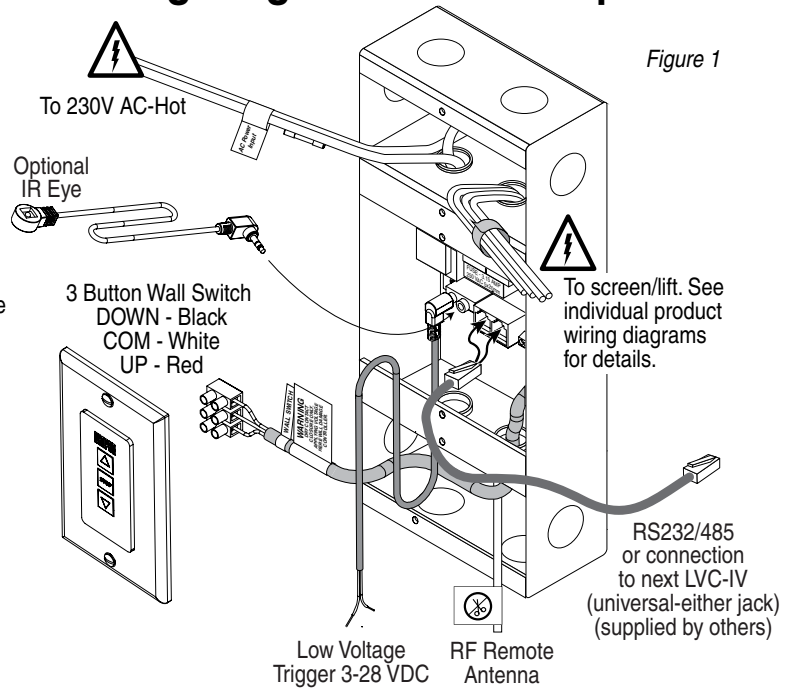

Figure 1
- ① Plug Optional IR Eye into mini plug input provided on LVC-IV (see Figs. 1 and 3).
- ② IR Remote Control transmitter does not need to be "learned" by the LVC-IV. Simply point and operate.
- ③ **Maximum IR Eye cable length is 106 cm.**
- ① Connect remote trigger voltage from projector to the low voltage trigger cable.
- ② Plug the mini-jack plug of the low voltage trigger cable to the LVC-IV (Figure 1 & 4).
- ③ When projector is 'ON' the low voltage output of the projector will cause LVC-IV to deploy projection screen.